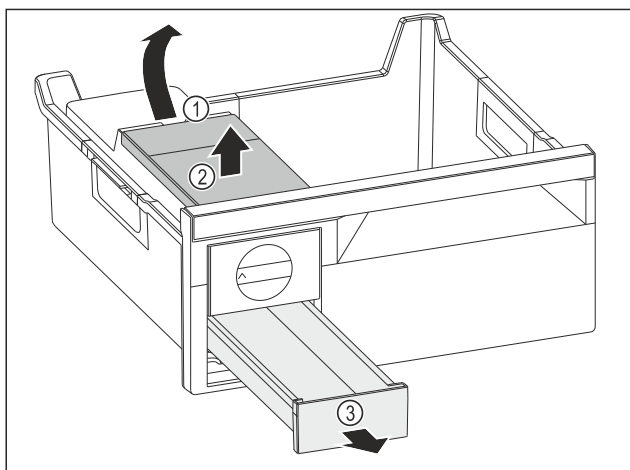

Fig. 157
- Removing the water tank: Lift the water tank by the recess Fig. 157 (1).
- Remove the water tank Fig. 157 (2) upwards.
- Remove the ice cube drawer Fig. 157 (3) to the front.